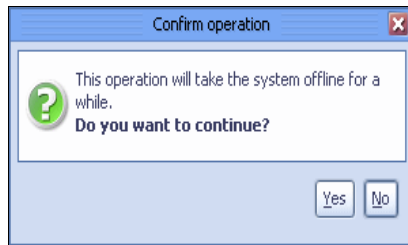

Figure 10-10 Increase repository confirmation window
9. Click **Finish**. A confirmation window opens (Figure 10-10).